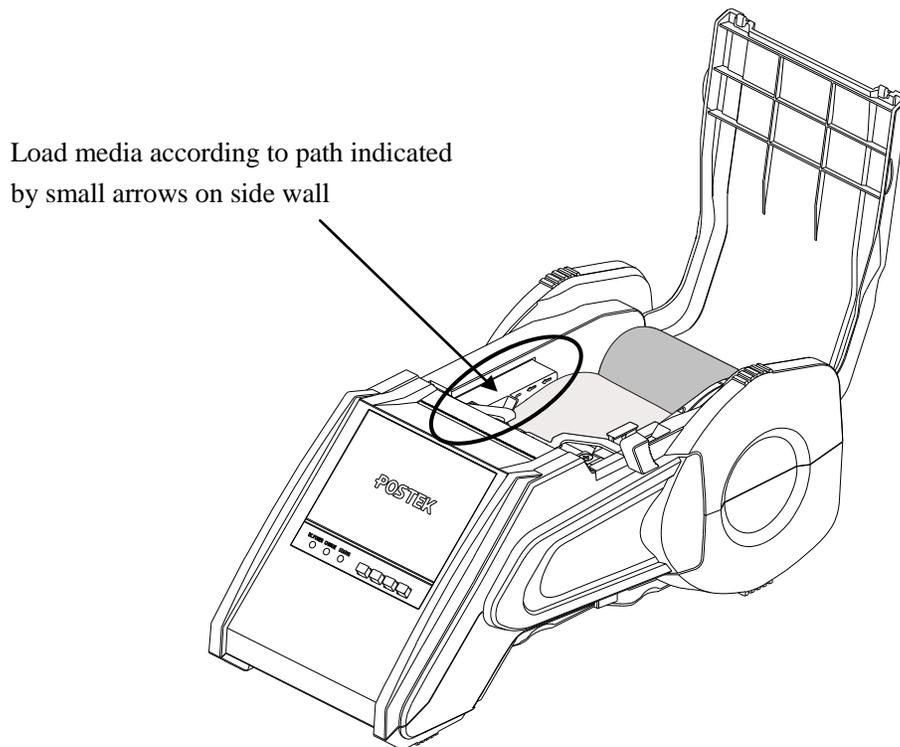

Figure 2-12
5. Lead the media above the two supporting rods, and follow the media path on the side wall (Figure 2-12); push the labels inward as far as possible.